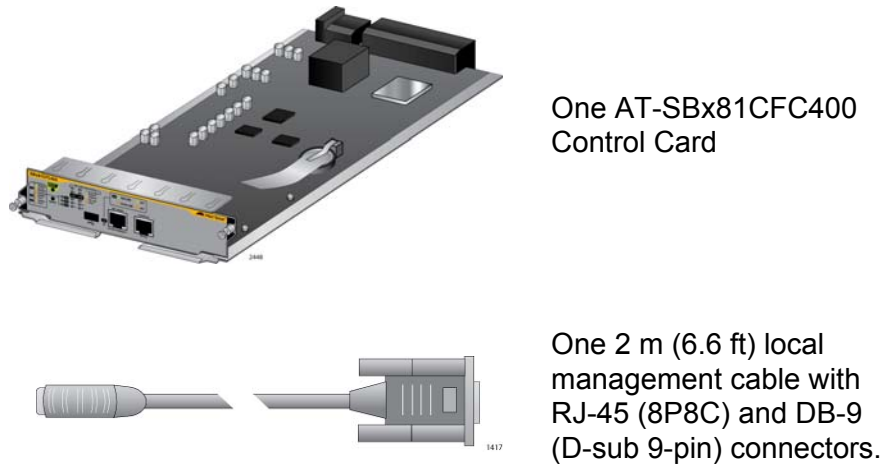

Figure 64. Items Included with the AT-SBx81CFC400 Controller Card
2. Remove the new AT-SBx81CFC400 Control Card from the shipping package and verify the package contents, listed in Figure 64 on page 111.